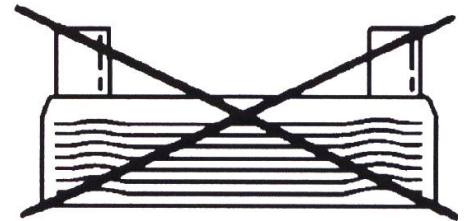
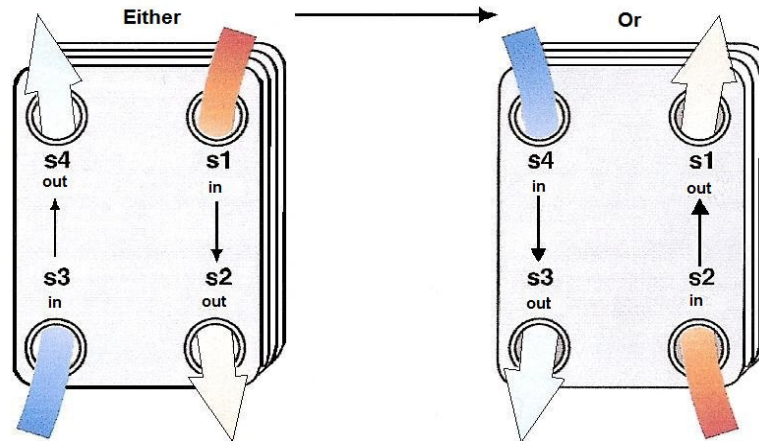

Fig. 1
Fig. 2
- The plate heat exchangers should be installed in a vertical position to provide draining of flow channels (fig. 1).
- Every VAU Blockbuster unit contains a product label, identifying the connection ports and the required counter flow patterns of the media. Figure 2 details these counter flow patterns.
- With the VAU Blockbuster unit standing upright, as shown in Fig. 1 on page 4, piping must be installed in a manner to achieve the counter flow of media. One media will enter the bottom left side of the unit and exit the top left side of the unit. The other media will enter the top right side of the unit and exit the bottom right side of the unit. As shown in Fig.2 on page 5, either counter flow path configurations of media are acceptable. Please be certain to plan and implement your installation according to either of the flow paths shown in Fig. 2 on page 5.